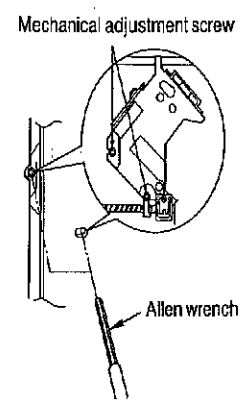

Fig. 3
- Alternately adjust the two mechanical adjusting screws with the 2.0 mm allen wrench (SZZP1101C) until the RF signal amplitude on the oscilloscope is maximize. (Shown in Fig. 3)